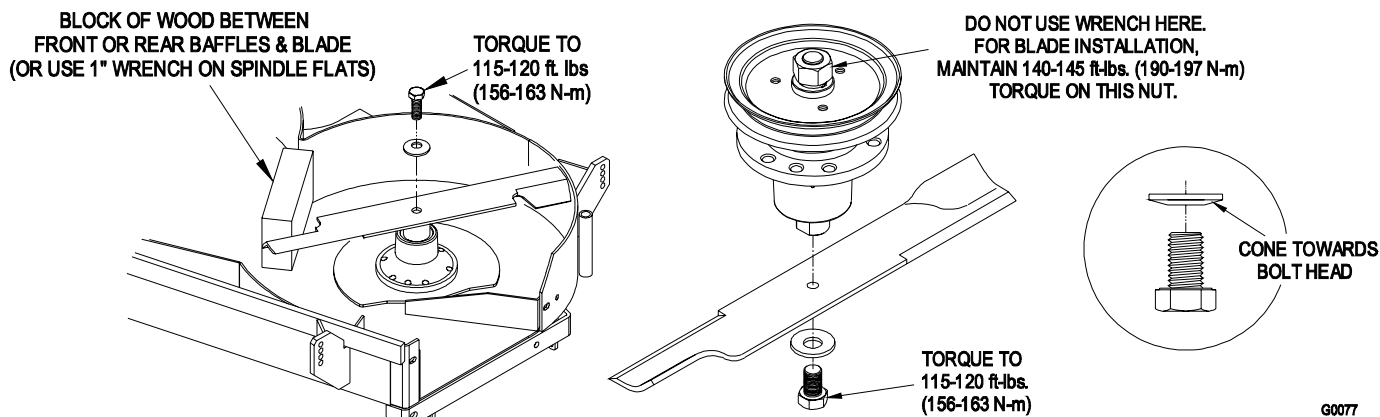

FIGURE 8
- d) Re-install the blades (if they were removed) by placing a block of wood between the front or rear baffles and the blade then torque the blade bolts to 115-120 ft. lbs (156-165 N-M). Be sure the spring disk washer cone is installed toward the bolt head. (See Figure 8).